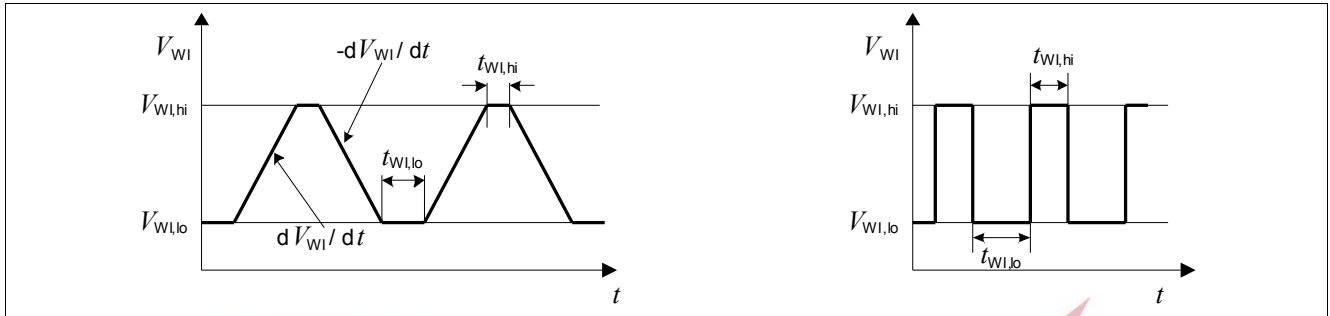

Figure 9 Test Pulses Watchdog Input WI
The watchdog is triggered by a positive edge at the watchdog input "WI". The signal is filtered by a bandpass filter and therefore its amplitude and slope has to comply with the specification 9.2.11 to 9.2.14. For details on the test pulse applied, see Figure 9.
2) For details on the test pulse applied, see Figure 9.